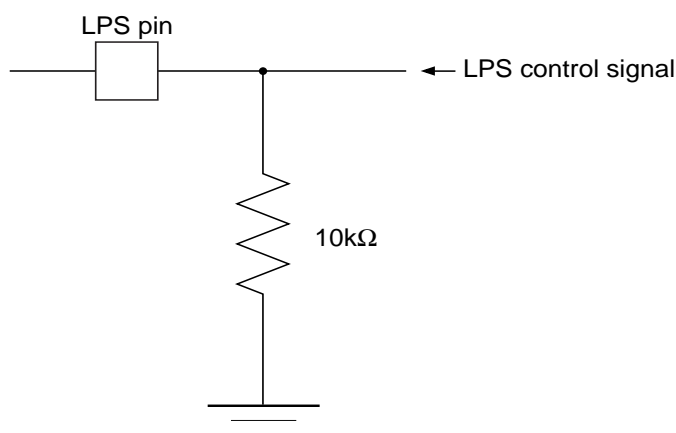

Figure 7.17 A typical direct connection and LPS external circuit 1 (with external signal control)
The S1R72900F00A issues short bus reset (SBR) against other nodes connected when detecting LPS = "1". This function makes cancellation possible by clearing Page select7Register 70 bit 7. A typical external circuit for the LPS pin is shown in Figures 7.17, 18 and 19.
* The LPS control signal shown Figure 7.17 is required to be 0.8 V lower when the power supply on the upper layer compared to the Link layer is set to OFF. For example, if the LPS control signal is output from the Link layer controller IC, LPS output is required to be GND output when the Link layer controller IC power supply is set to OFF. (For VDD output, LPS = "0" may not be recognized because the VDD potential may not become 0.8V lower.)